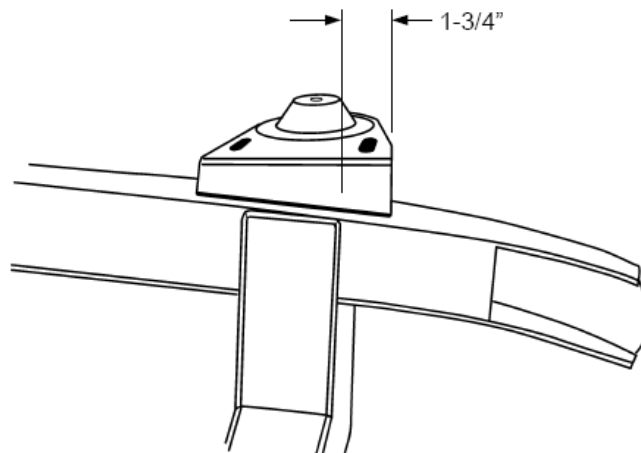

Figure 6- Spring Tower Location
- 8.) Next are the spring towers. They sit on top of the frame rails, and are located as shown in **Figure 6**, (1-3/4", forward of the crossmember measuring from the front of the crossmember to the front of the spring tower). Clamp in place, double check your dimensions, then weld all around, including the gusset flanges on the sides of the rails. For added strength, you can also weld the inside of the gusset flanges. (Hint: Before you install the spring towers, you can weld up and grind flush the old fender bracket holes and the one splash apron hole which are covered by the spring towers, as they will no longer be used.)